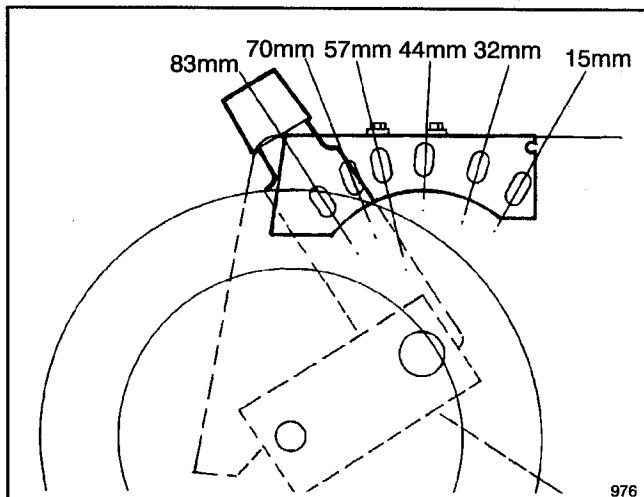

Figure 8
- Grass grows at different rates at different times of the year. In the heat of the summer, it is generally best to cut grass at the 44 mm (1-3/4"), 57 mm (2-1/4") or 70 mm (2-3/4") height-of-cut settings (Fig. 8). Only about 1/3 of the grass blade should be cut off. Cutting below the 44 mm (1-3/4") setting is not recommended unless grass is sparse or it is late fall when grass growth begins to slow down.